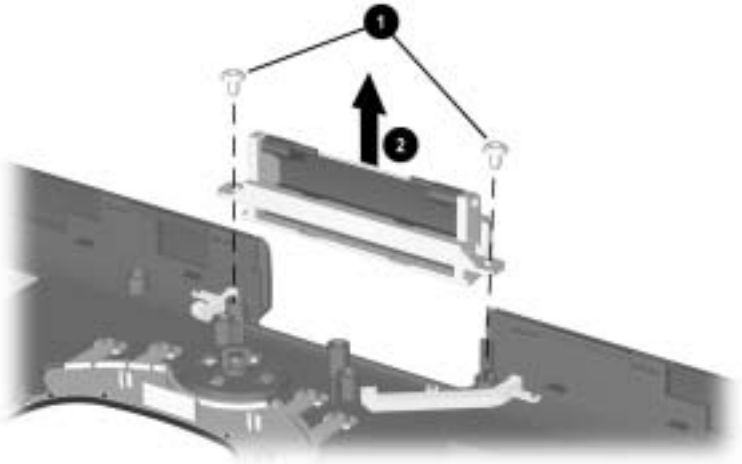

Figure 5-35. Removing the Display Release Assembly
4. Remove the two TM2.5 × 5.0 screws ❶ that secure the display release assembly to the palm rest (Figure 5-35).
5. Remove the assembly ❷ from the palm rest.